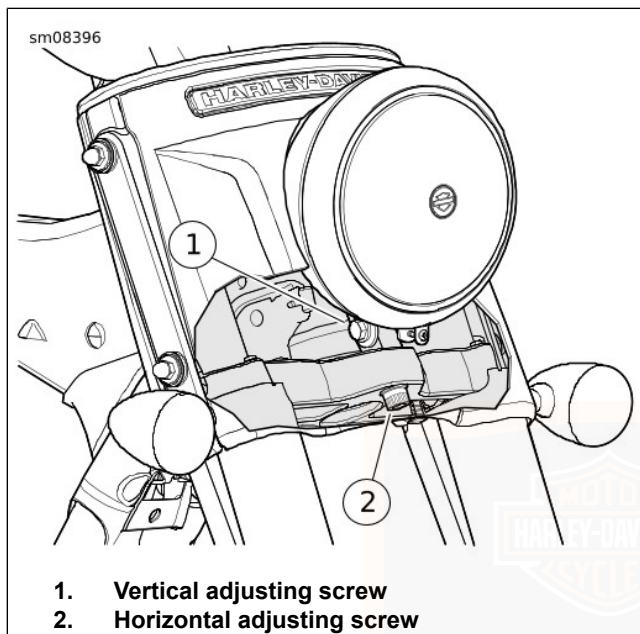

Figure 77. Headlamp Adjustment: FLRT
2. See Figure 77. Loosen horizontal adjustment screw (2). Tilt headlamp left or right to direct light beam straight ahead.
3. Tighten screw (2) to: